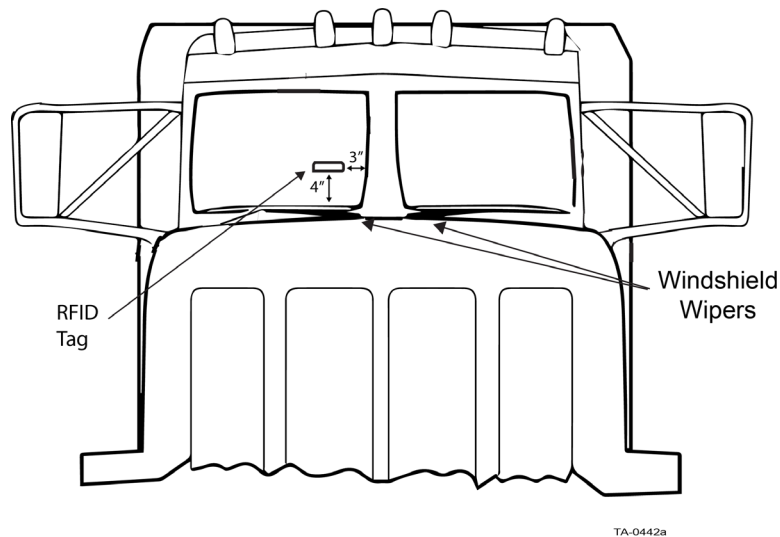

Figure 3 – Placement on two-piece windshield
- If the vehicle has a two piece windshield, the NP2 should be mounted on the passenger side, 3 inches away from the center dividing bar, above the windshield wipers and 4 inches above the bottom of the windshield (Figure 3).